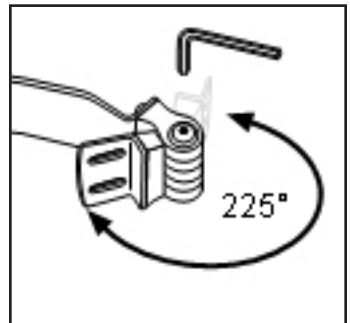

Fig. 9
2. Adjust the pad bracket to the desired angle and tighten. Fig. 9